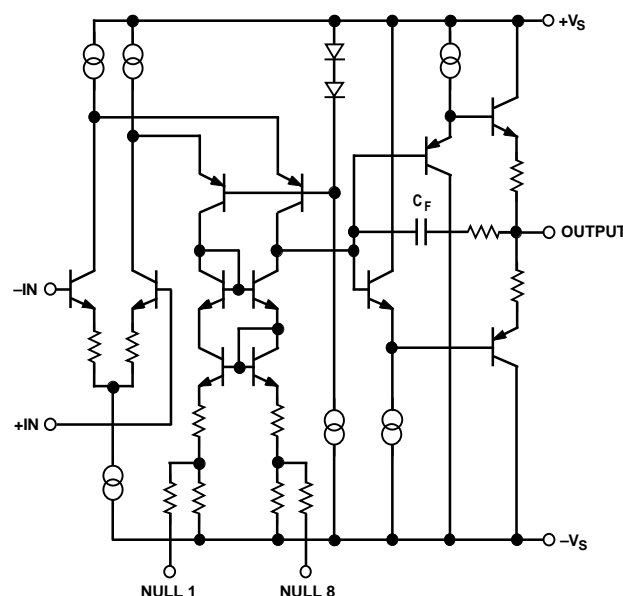

Figure 22. AD847 Simplified Schematic
The AD847 is fabricated on Analog Devices' proprietary complementary bipolar (CB) process which enables the construction of pnp and npn transistors with similar  $f_T$ s in the 600 MHz to 800 MHz region. The AD847 circuit (Figure 22) includes an npn input stage followed by fast pnps in the folded cascode intermediate gain stage. The CB pnps are also used in the current amplifying output stage. The internal compensation capacitance that makes the AD847 unity gain stable is provided by the junction capacitances of transistors in the gain stage.